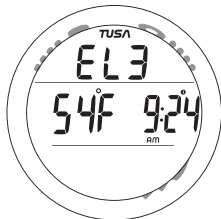

Fig. 32 - NORM SURF ALT
**NORM SURF ALT**, information includes (Fig. 32):